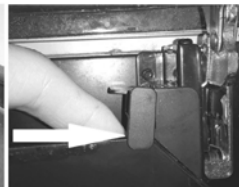

Fig. 5
7. Finally, push the „levers“ on both sides back as shown in Fig. 5.